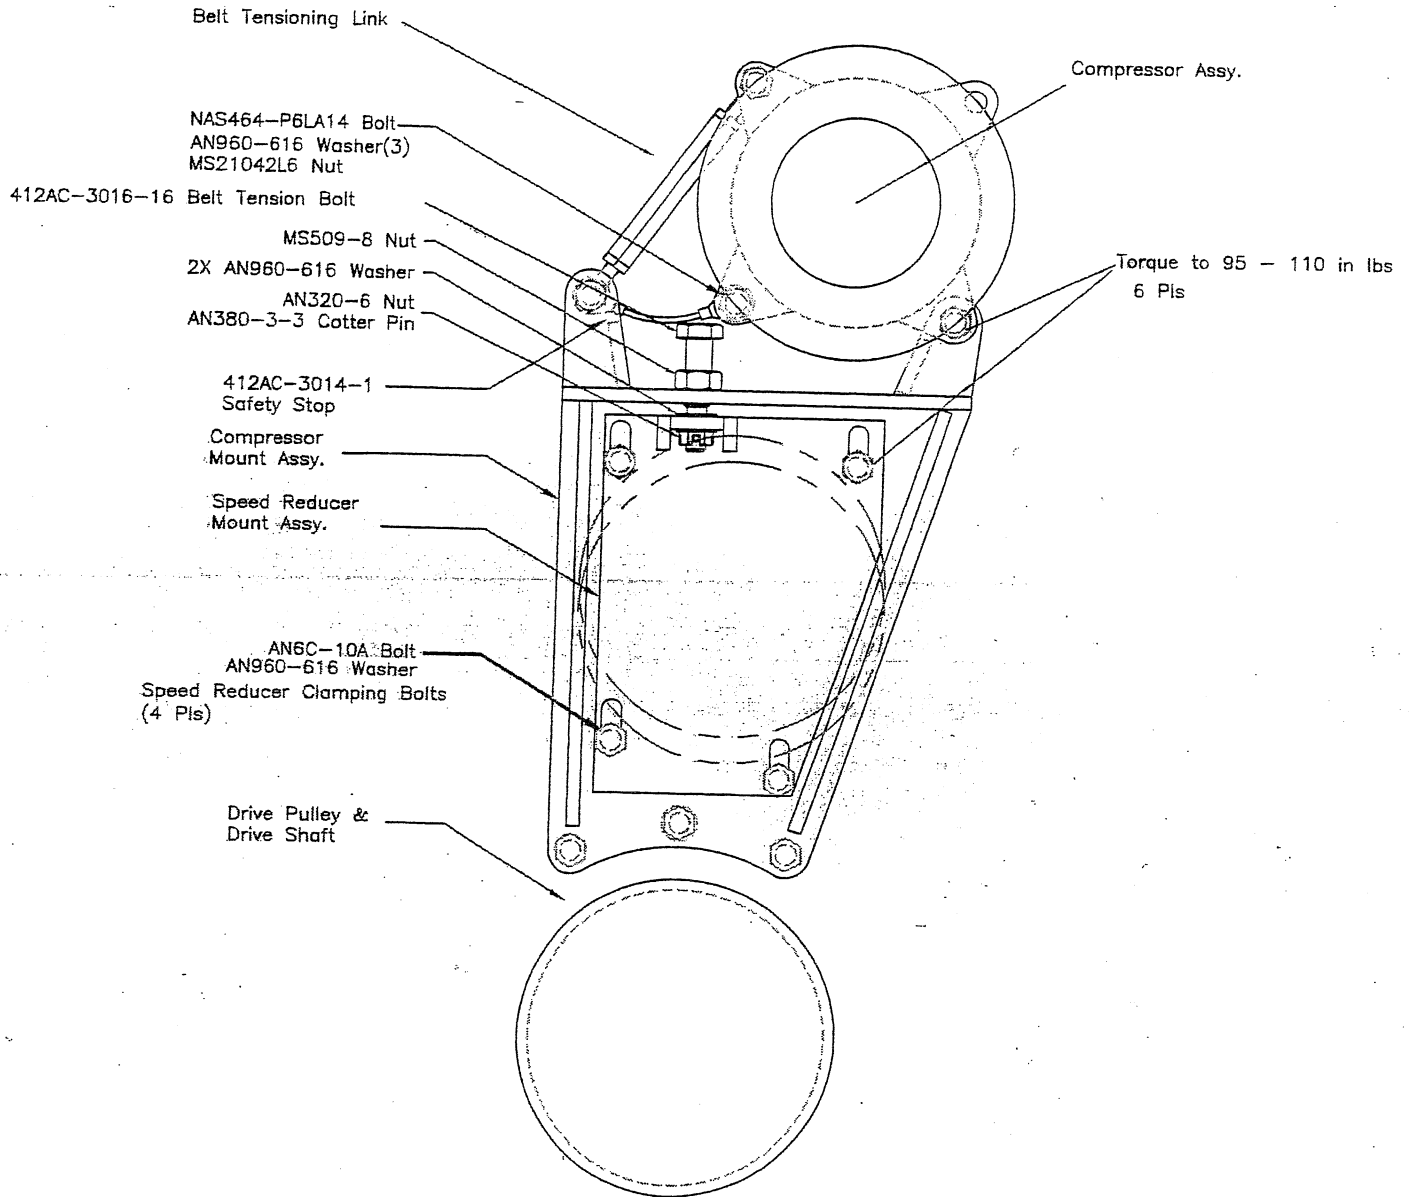

Figure 2, 412 Air Conditioner
4. Remove the cotter pin and the AN320-6 Nut at the bottom of the 412AC-3016-16 Bolt. Remove the AN960-616 Washers located between the Speed Reducer Assy. and the bottom of the Compressor Mount (see figure 2).
5. Remove the four AN6C-10A Bolts from the face of the Speed Reducer Pulley / Shaft Assembly, and remove the assembly from the aircraft (figure 2).
5. Reinstall the two AN960-616 Washers between the top of the Speed Reducer Assy. and the bottom of the Compressor Mount, reinstall the AN320-6 Nut, and AN380-3-3 Cotter Pin in the bottom of the 412AC-3016-16 Bolt. (figure 2).